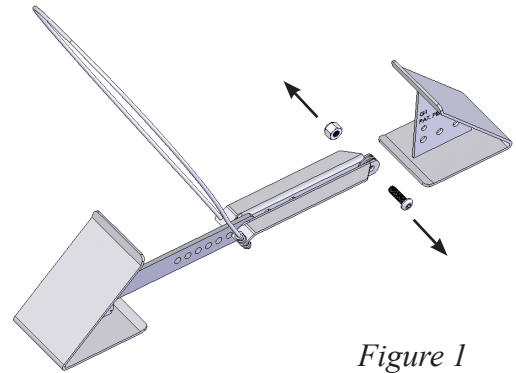

Figure 1
1) Remove the chock and other parts from the packaging. Remove the bolt and nut holding the double arms to the wedge using the hex key provided for adjustments, and a 9/16" socket. *See Figure 1.*